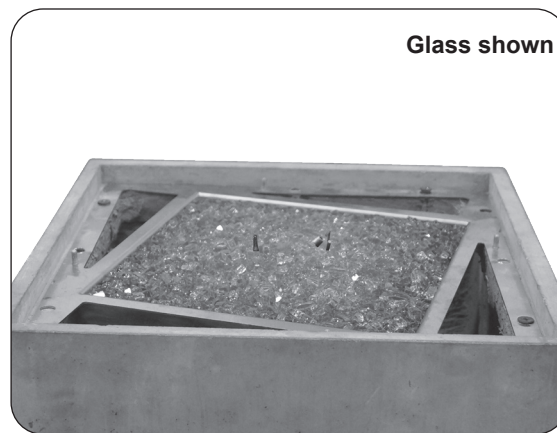
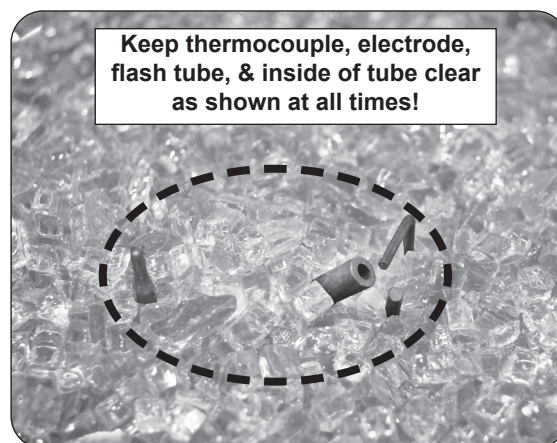
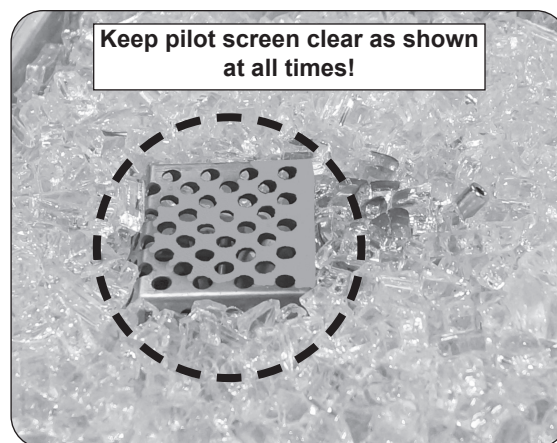

Fig. 24-1 Glass placement
Fig. 24-2 Required clearance - M model
Fig. 24-3 Required clearance - H model
Pour the glass media (glass/gems) evenly into the burner pan (see Fig. 24-1 and Fig. 24-2 or Fig. 24-3).
- **Keep the thermocouple, electrode, flash tube, and inside of the flash tube clear of glass media and any other items/debris at all times. This will allow for proper ignition and operation. DO NOT COVER. See Fig. 24-2 or Fig. 24-3.**